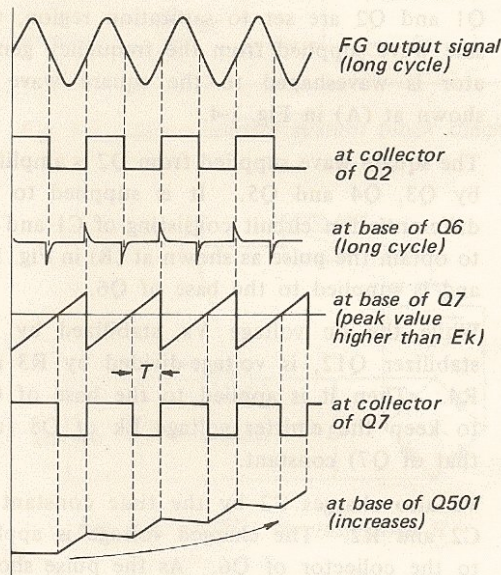

Fig. 1-6. When motor speed becomes slower
2. Motor Speed Becomes Slower (Fig. 1-6).